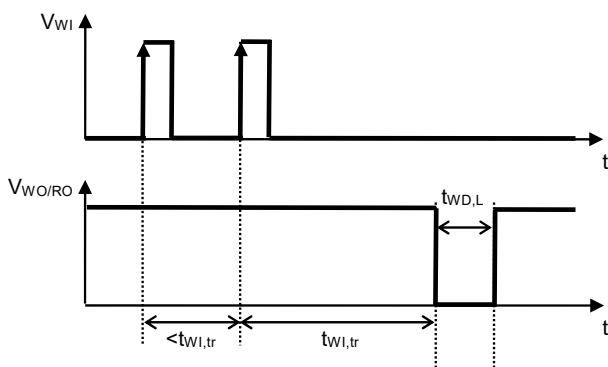

Figure 9 Watchdog Trigger Time
- \*1. The time when the WO / RO pin continues "L" after the watchdog timer detects a time-out or double-pulse (Refer to **Figure 9**). This value changes according to  $C_{DLY}$ .
- \*2. The time from when the watchdog timer initiates the detection of a trigger signal to when a time-out is detected and the WO / RO pin output changes to "L" (Refer to **Figure 9**). This value changes according to  $C_{DLY}$ .